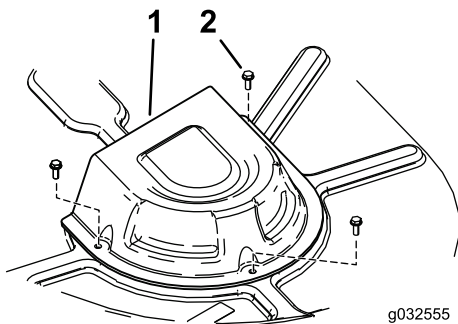

Figure 67
5. Remove the pulley covers (Figure 67).